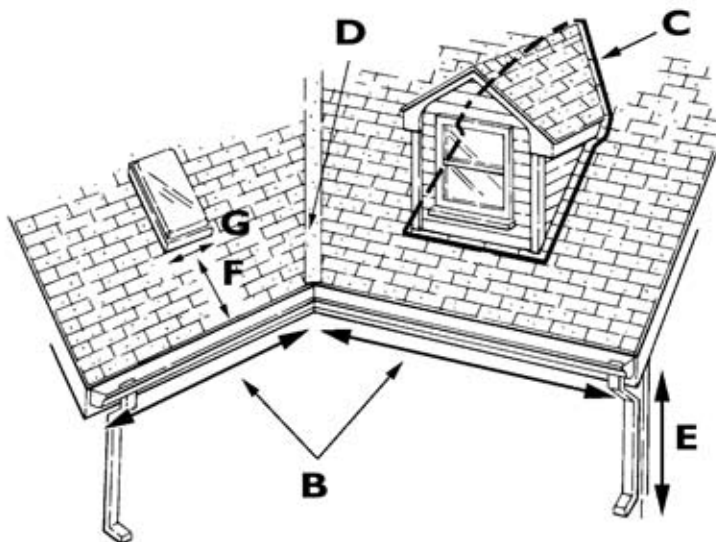

Figure B-3. Roof Measurements
STEP 1. For each area listed in Table B-5, measure the required dimensions (see Figure B-1 on page 20 and Figure B-3) and calculate the length of cable needed. Add each "area" calculation to determine the total cable length needed.
This example shows how to estimate the cable length needed for a limited problem roof area – a skylight (see Figure B-3 on page 22). For this roof, you would like to treat only the problem area underneath the skylight.